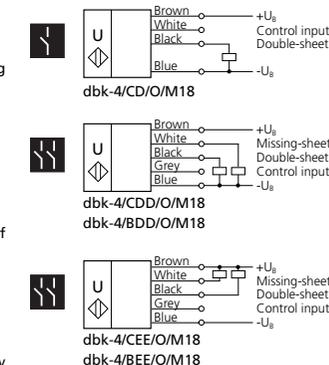

Fig. 2: Standard symbols and terminal assignments
- ☞ Connect the 4-core or 5-core control cable of the receiver as shown in fig. 2.